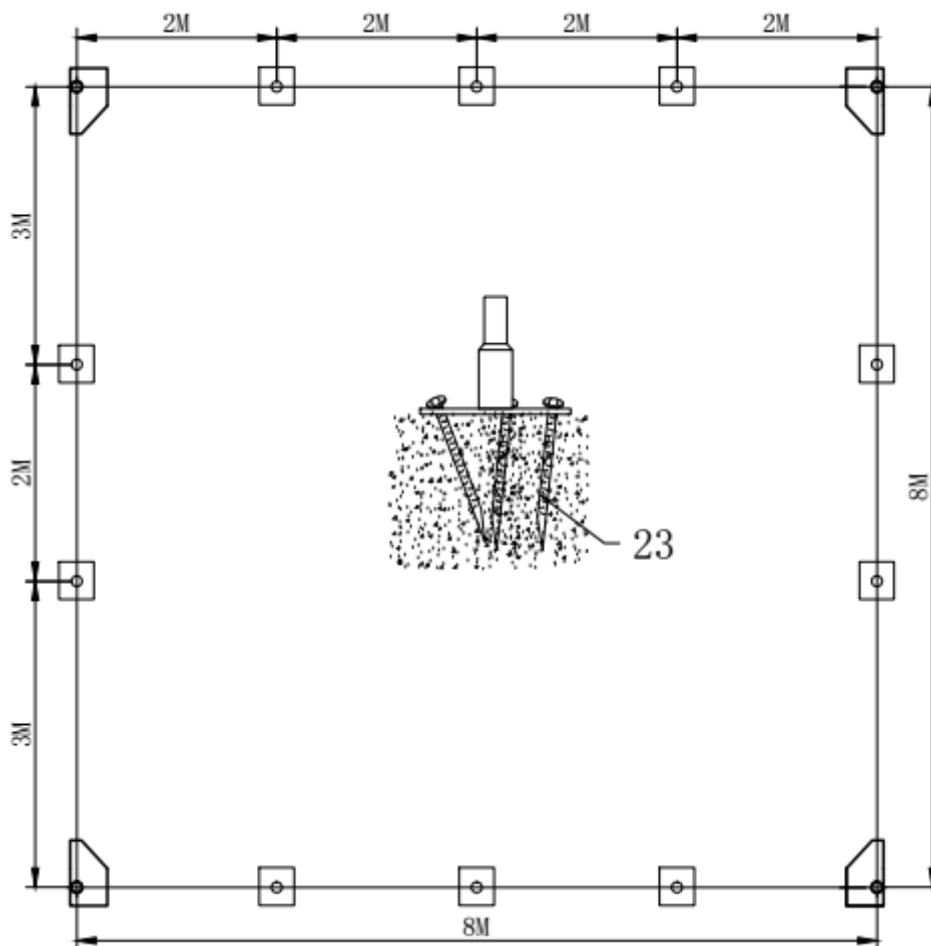

Figure 2
1. Please refer to the diagram (**Figure 2**) to place the base plates(No.6/6L/6R/7). The measurement is from center to center of tubes on the base palates. Referring to the above diagram and confirm the place of base plates.
2. As **Figure 2** shows each Base plate is equipped with 3 pieces of **Stake Peg(No.23)**. There are three holes on the plates for **Stake Peg(No.23)**.